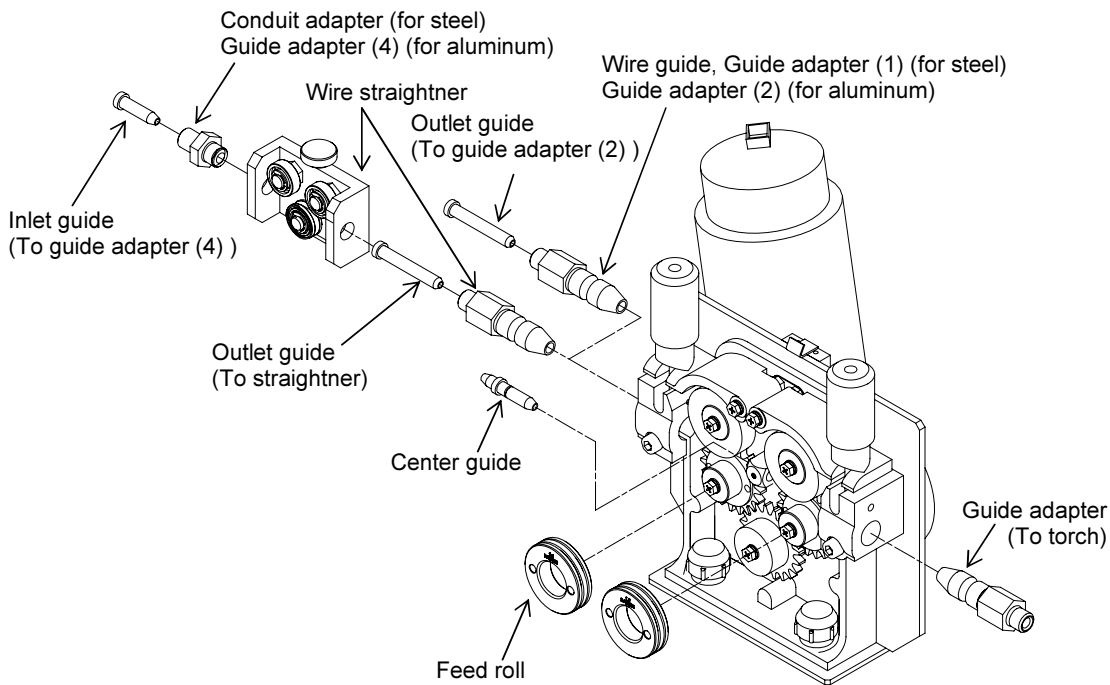

Fig.4 Optional Parts Assembly
### (3) Feed roll and pressure roll (Fig.4)
### (4) Center guide (Fig.4)
### (5) Torch connection part (Fig.4)
### (6) Conduit connection part (Fig.4)
### Parts for wire straightner (Fig.4)
### (7) Aluminum kit (Fig.4)